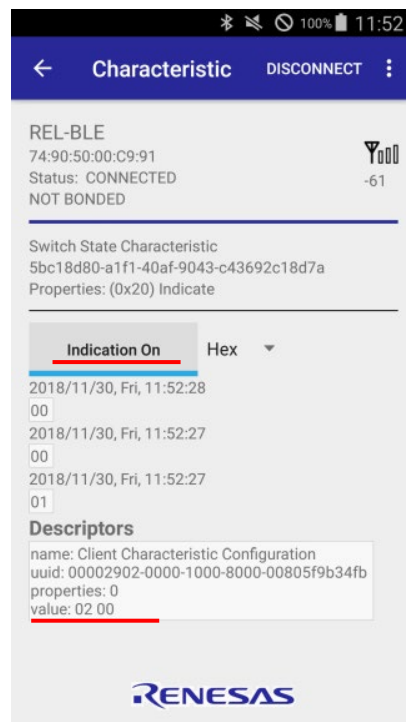

Figure 4
6. (Figure 4) Confirm that the button is "Indication" on "Characteristic" screen. When tap the button, the state of SW4 is transmitted at the Indication from the evaluation board. Confirm that "value" of "Descriptors" is "02 00" (Indication enable). (The value is little-endian, so the actual value is 0x0002)